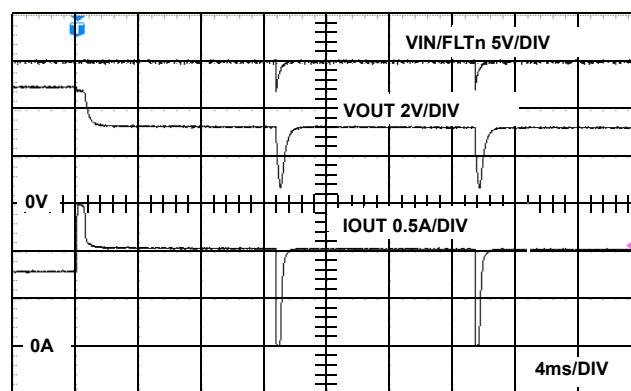

FIGURE 22. AUTO RESET OPERATION
Initially as voltage is applied to VIN, the pull up resistor (R_{pu}) provides for pull up to VIN on both the ENABLE pin asserting the output once $V_{IN} > 2.5V$ and on the FLTn pin. Once turned on and an overcurrent (OC) condition occurs the IC provides CR protection for 10ms and then the FLTn pin pulls low through R_{pu} and also pulling the ENABLE low thus resetting the device fault condition. At this time the R_{pu} charges the cap and the voltage on the ENABLE/FLTn node rises until the $ENABLE > 2.0$ and the output is asserted on once again. This automatic reset cycle will continue until the OC fault no longer exists on the output. After several seconds in this mode of operation the IC thermal protection invokes adjusting the timing of the on-off cycle to prevent excessive thermal dissipation in the power switch protecting itself and surrounding circuitry. See Figure 22 for operation waveform.